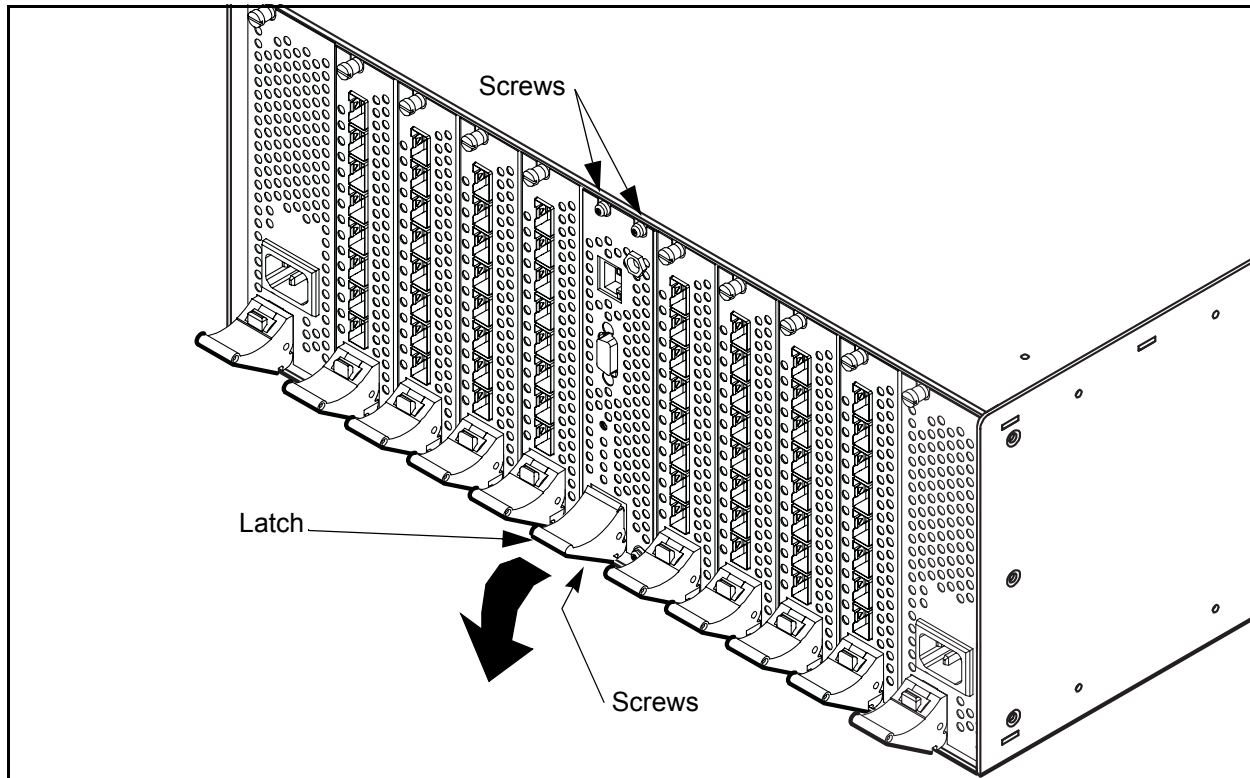

Figure 6-1. Removing the CPU Module
8. To unfasten the CPU module, disconnect the Ethernet and serial cables from the CPU module. Connect an ESD wrist strap to a ground point on the chassis or rack. Using a flat-bladed screwdriver, loosen the four captive screws at the top and bottom of the CPU module faceplate as shown in Figure 6-1. The bottom-left screw is under the latch.